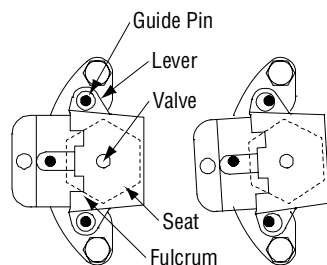
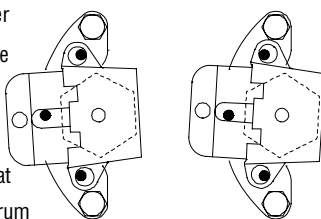
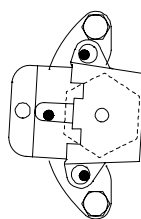
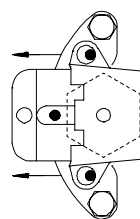

Figure 8.
Figure 9.
Figure 10.
Figure 11.
- E) Check for alignment of the guide pins. Hold the lever and valve against the valve seat with the valve contacting its seat and the two fulcrum points resting on the face of the seat. When the lever is held in this position, the guide pins should be centered in the guide pin holes as in Figure 8. When correctly aligned, the lever will rotate sideways the same distance to the right (Figure 9) as to the left (Figure 10). Should the guide pins be out of line for any reason, they should be bent slightly so they will be centered in the guide pin holes as shown in Figure 8. For example, the guide pin in Figures 11 and 12 are not properly aligned and should be tapped lightly with a hammer, or similar tool, in the direction of the arrows. If the pins are too far apart or too close together, a similar procedure should be followed to position them concentrically.